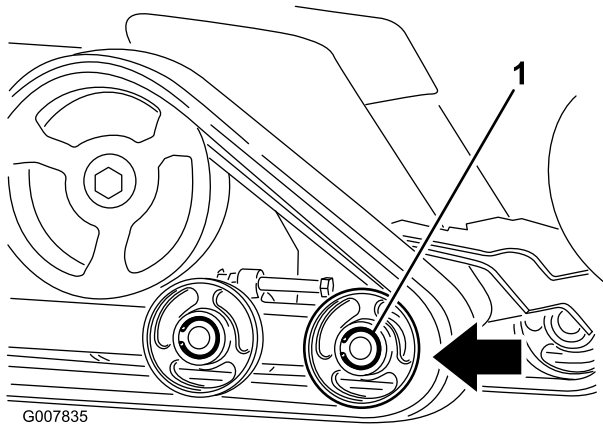

Figure 61
6. Push the front road wheel rearward as far as it can go (Figure 61).
8. When the track is off the road wheel, remove it from the machine (Figure 61).
9. Beginning at the drive wheel, coil the new track around the wheel, ensuring that the lugs on the track fit between the spacers on the wheel (Figure 61).
10. Push the track under and between the rear and center road wheels (Figure 61).